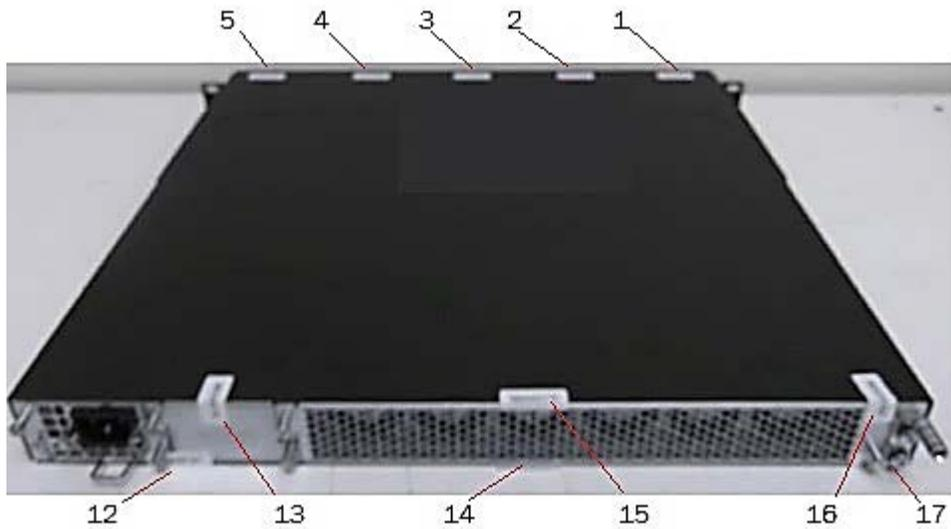
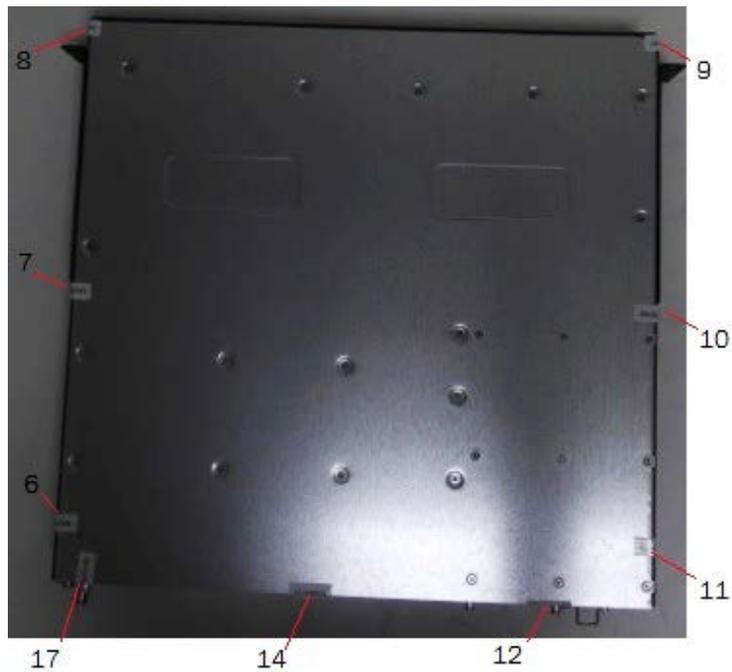

Figure 40 - Rear view of Brocade CER 2024C-4X-RT device with security seals
Figure 41 - Bottom view of Brocade CER 2024C-4X-RT device with security seals
- Rear: Affix six (6) seals across the back of the chassis to inhibit the removal of a power supply, power supply filler panel or fan module. Seal 13 wraps from the top cover to the filler panel. Seals 15 and 16 wrap from the top cover to the fan module. See Figure 40 for correct seal placement. Seal 12 touches both the power supply module and filler panel before wrapping onto the bottom of the chassis. Seals 14 and 17 wrap from the fan module to the bottom of the chassis. See Figure 40 and Figure 41 for correct seal placement.